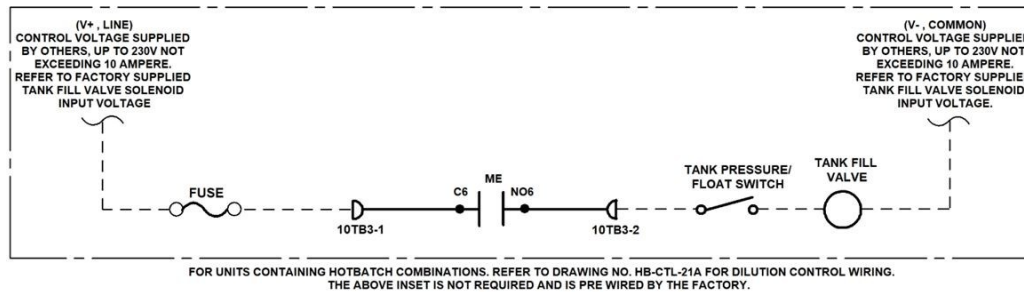

Figure 11, Total Fill Valve Control Wiring Diagram
- a) **Overview and Operation:** The Total Fill Valve Control (TFVC) formerly Dilution Control, allows the operator complete control over tank temperature and volume. APPLICABLE FOR INSTALLATIONS INCLUDING STORAGE TANKS THAT REQUIRE MAKE UP WATER ONLY . For example, when fluid is batched form the tank the volume removed is replace by some form of filling mechanism - typically a fill solenoid valve and a pressure or float switch. In turn, the tank temperature is affected in some way i.e. in cooling modes, tank temp increases. Due to this external heat load being introduced, the operator often has little control over the final temperature of the tank caused by the dilution . However in some instances, this mode of operation may not be acceptable and a different control method is required. American GeoThermal developed TFVC using state of the art temperature control software that allows the operator to set desired minimum and maximum tank temperatures for both cooling and heating modes. Once the minimum and maximum temperatures are set and the TFVC is activated, the fill solenoid valve will shut off regardless of the tank fill level to prevent dilution beyond desire. Refer to figure 11 and the electrical diagram section for more detail on field wiring the fill valve and control switch.